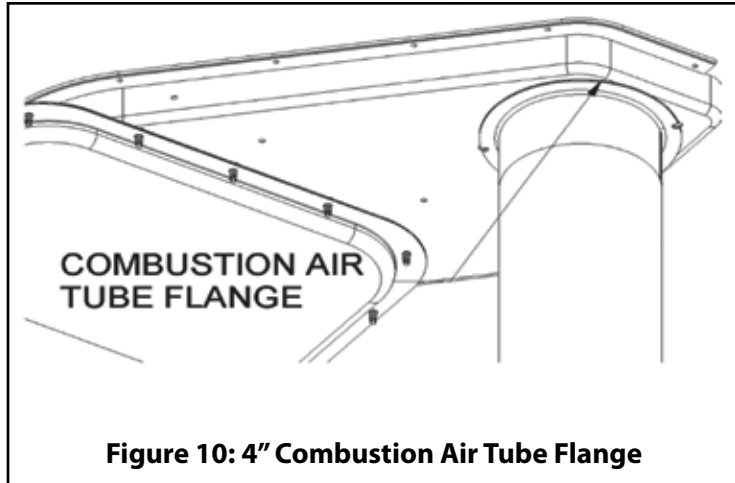

Figure 10: 4" Combustion Air Tube Flange
7. Remove the two 3/16"-16 Phillips head screws from the flange at the top of the 4" combustion air pipe located inside the blower compartment (See Figure 10).